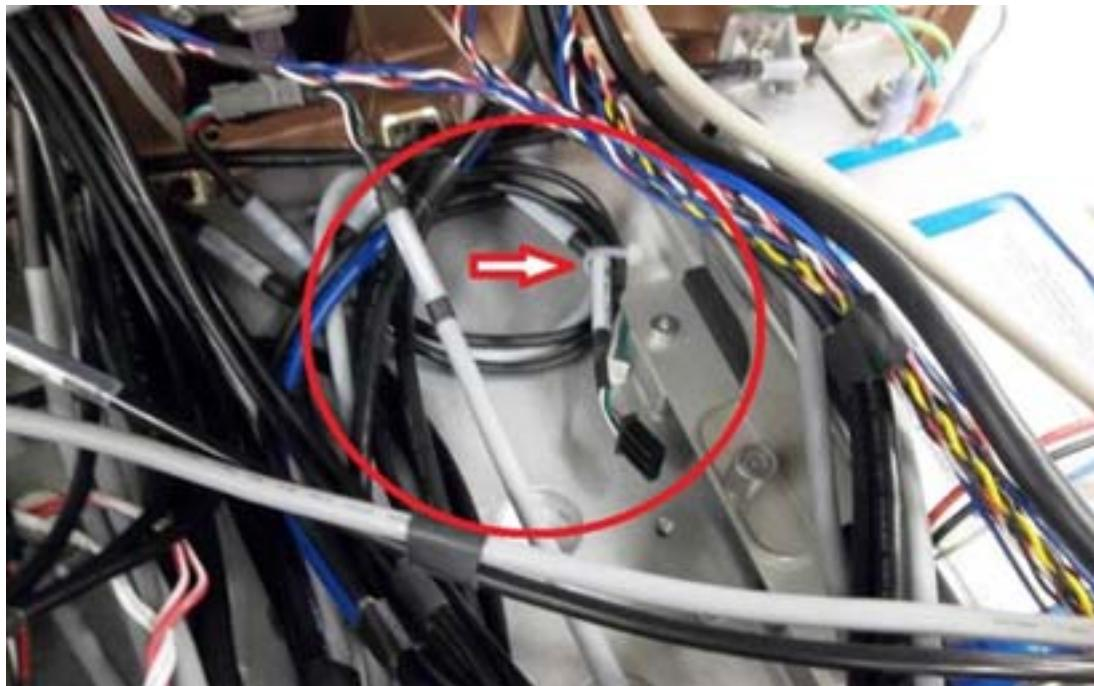

Figure 4-19 Unused Wires Reserved for Future Use
- Some disconnected wires are for future use as indicated by the arrow in Figure 4-19 (the ARPS pump is removed for clarity).